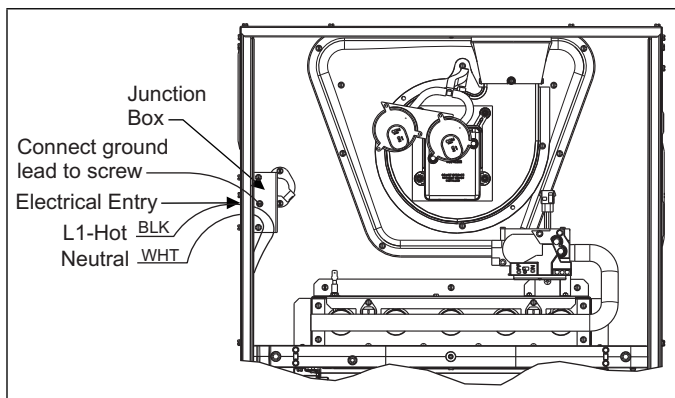

FIGURE 16: Electrical Wiring
(equipment ground) An alternate wiring method is to use a field provided 2" (5.1 cm) x 4" (10.2 cm) box and cover on the outside of the furnace. Route the furnace leads into the box using a protective bushing where the wires pass through the furnace panel. After making the wiring connections replace the wiring box cover and screws. Refer to Figure 16.
3. The furnace's control system requires correct polarity of the power supply and a proper ground connection. Refer to Figure 16.